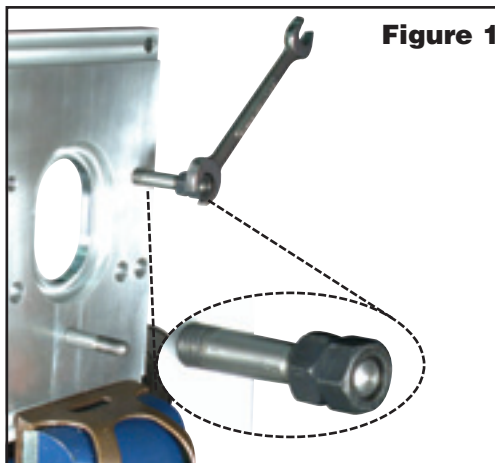

Figure 1
2. Install 3 threaded studs into the front plate as shown in Figure 1.